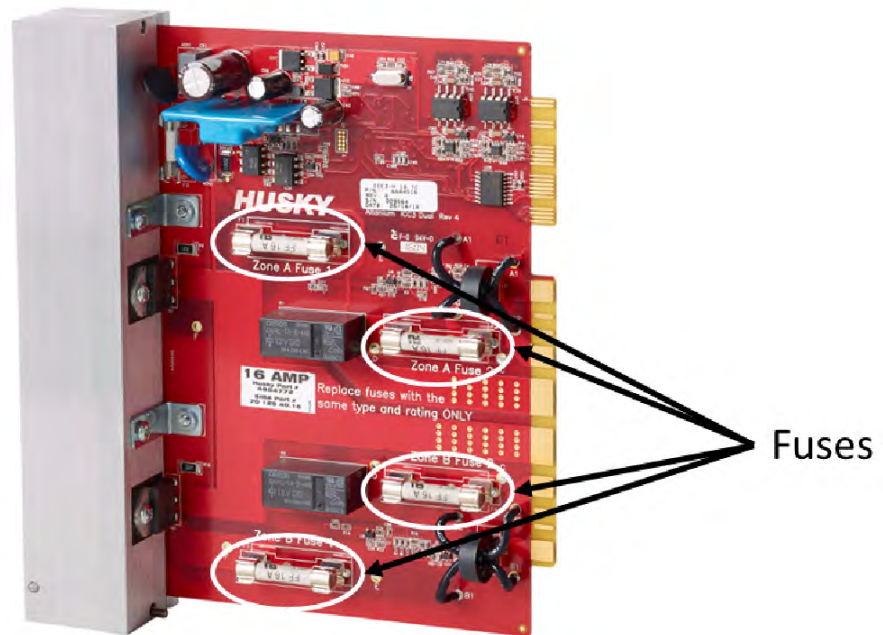

Figure 16-14 ICC Fuse Locations
5. Remove the faulty fuse (refer to Figure 16-14 for fuse location examples).